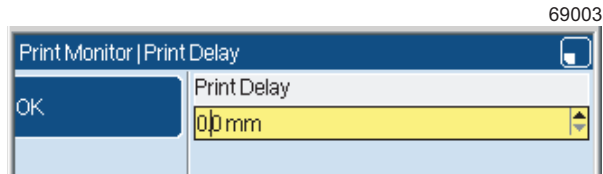

Figure 1-8. Remove the highlight
The vertical line in Figure 1-8 is the cursor. The cursor shows your current position in the box. Press the Left arrow key or the Right arrow key to move the cursor. Then you can add or insert some characters, or use the backspace key to delete a single character.
- You can also use the Up and Down arrow keys to increase or decrease the value in some text boxes. The arrow indicators at the far right of the box identifies this type of box (see Figure 1-8).